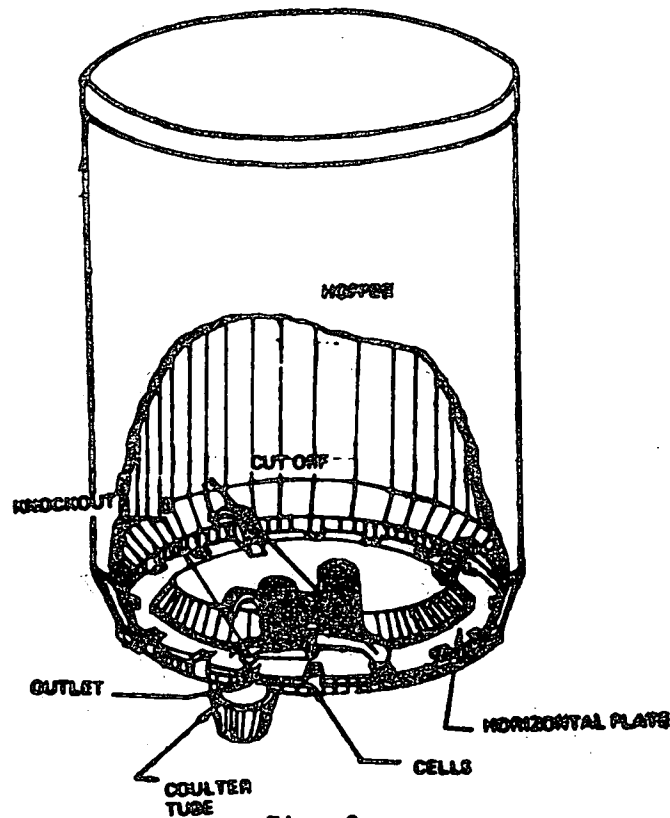

Fig. 2
**FEEDING.** (Fig. 2) It consists of a moving part with cells the size of which are such as to take individual seeds or groups of the same number.